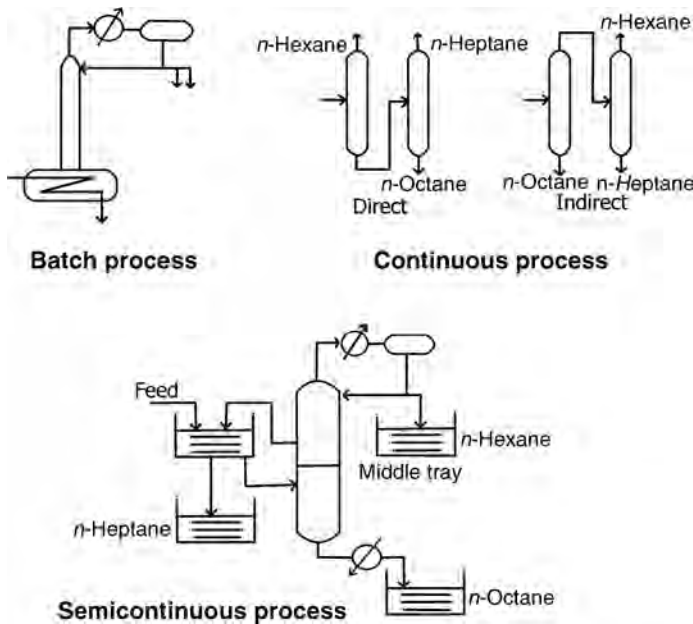

FIGURE 17.23 Batch, continuous, and semicontinuous processes for separation of *n*-hexane, *n*-heptane, and *n*-octane mixtures.
- Figure 17.23 illustrate batch, continuous, and semi-continuous process schemes.